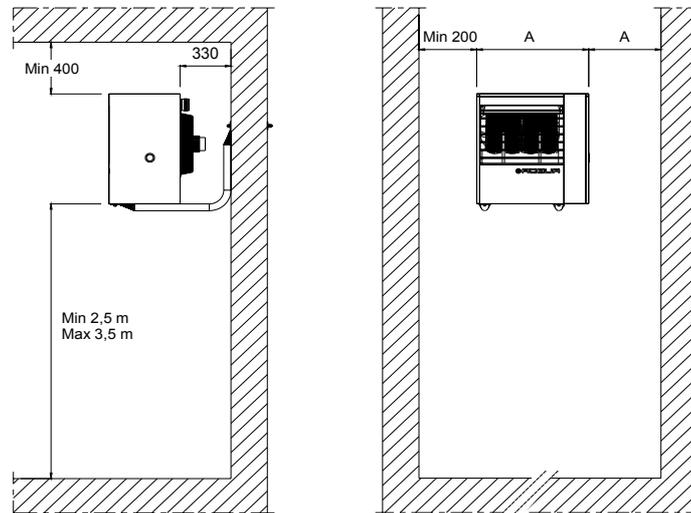

Figure 15 – Clearances to be respected
- The minimum distance from the wall behind the unit must be enough for air circulation. The minimum distance from the lateral walls is given by Figure 15 on page 43.
- The recommended height from the floor to the heater base is 2.5 to 3.5 m. It is not recommended to install the appliance under the 2.5 m height (see Figure 15 on page 43).